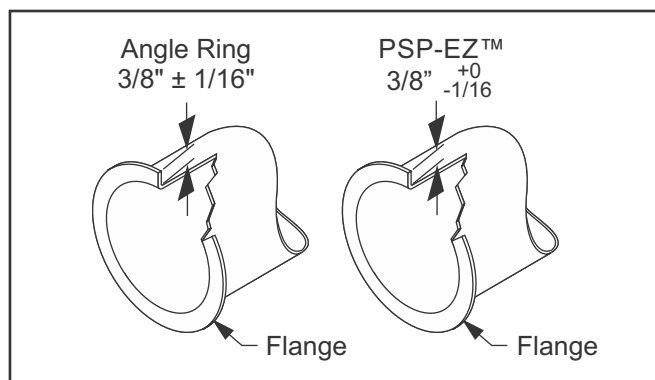

Fig. 20: Flange Height Dimensions & Tolerances
6. Set Flange Height : Once the backstop is installed, it should be adjusted to slightly more than 3/8" depth from the roll faces and locked in place. This dimension sets the height of the flange. We recommend that you experiment with some scrap pieces of duct to make sure the setting is producing the flange height desired. Fab-Tech generally uses a 3/8" flange height. The tolerance for this flange height varies for the PSP-EZ™ and PSP® companion ring joint types. If the piece will be used with a ring flange, the tolerance is $\pm 1/16"$. If the joint has a clamp, the flange should not be higher than 3/8" but it is allowed to be 1/16" less, or 5/16" high. This tolerance is important to the function of the clamped system. A quick check for correct flange height for clamped joints can be done by using an aluminum backing ring as a checking gage. (Fig. 20)